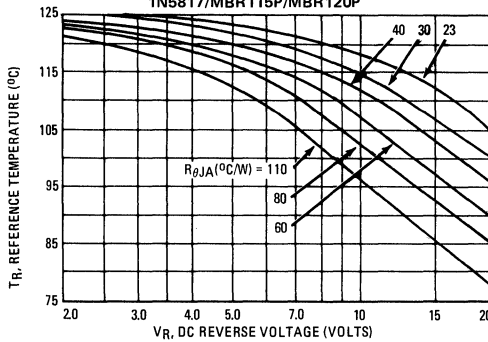

FIGURE 2 – MAXIMUM REFERENCE TEMPERATURE
Step 2. Find T_R from Figure 2. Read $T_R = 109^\circ\text{C}$